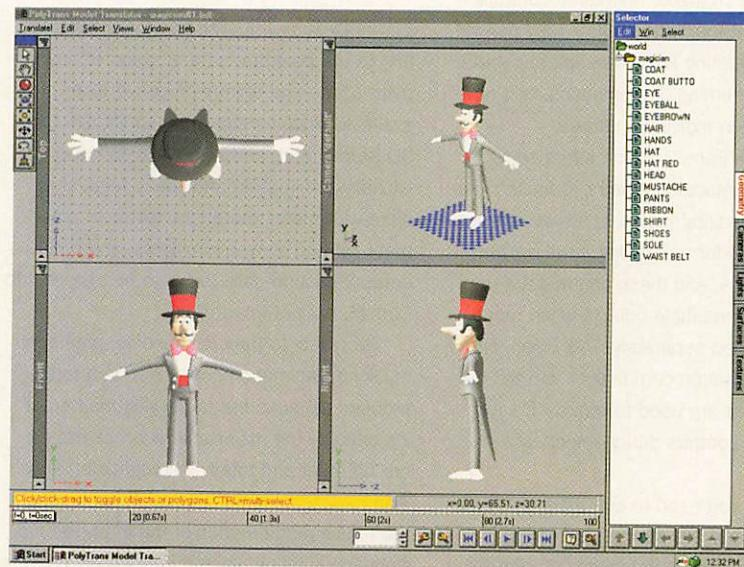

FIGURE 1. The user interface of Okino PolyTrans 2.2 is similar to that of many popular 3D applications.
**Okino PolyTrans 2.2** PolyTrans 2.2 is targeted at users who need quick and accurate file format translation, and there is no question that it offers the best import/export converters currently in existence (Figure 1). Developed over a decade, the latest version covers CAD, IGES, .slp, .stl, .dxf, ACIS SAT, content creation (Discreet 3D Studio MAX, NewTek LightWave, and Avid Softimage), visu-